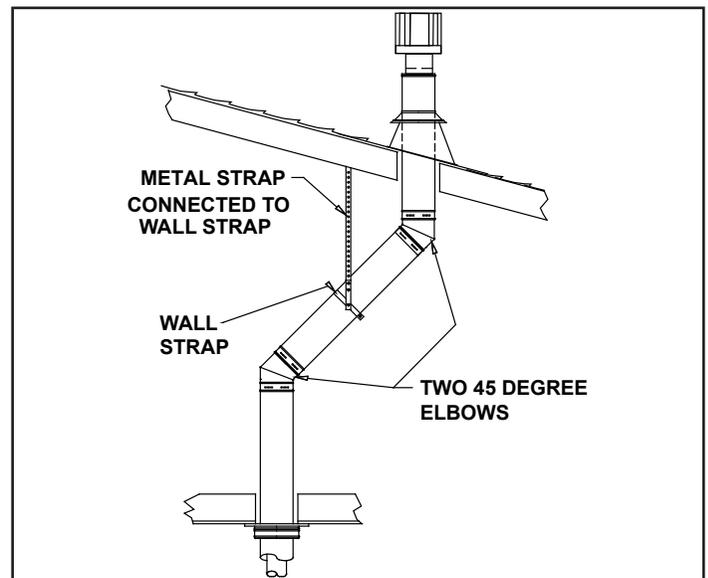

Figure 7.21
Step 2 - Set the gas stove in its desired location. Drop a plumb bob down from the ceiling to the position of the gas stove flue exit, and mark the location where the flue will penetrate the ceiling. Drill a small hole at this point. Next, drop a plumb bob from the roof to the hole previously drilled in the ceiling, and mark the spot where the flue will penetrate the roof. Determine if ceiling joists, roof rafters, or other framing will obstruct the venting system. You may wish to relocate the gas stove, or to offset, as shown in Figure 7.21 to avoid cutting load bearing members.